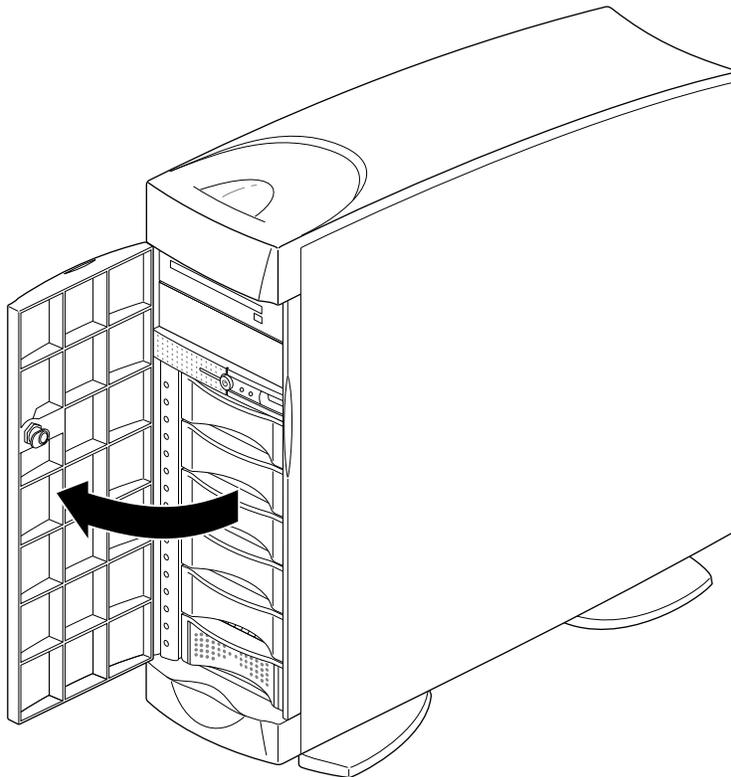

Figure 6-13 Opening the Front Door of the Origin200 System
1. Open the front door of the chassis as shown in Figure 6-13.